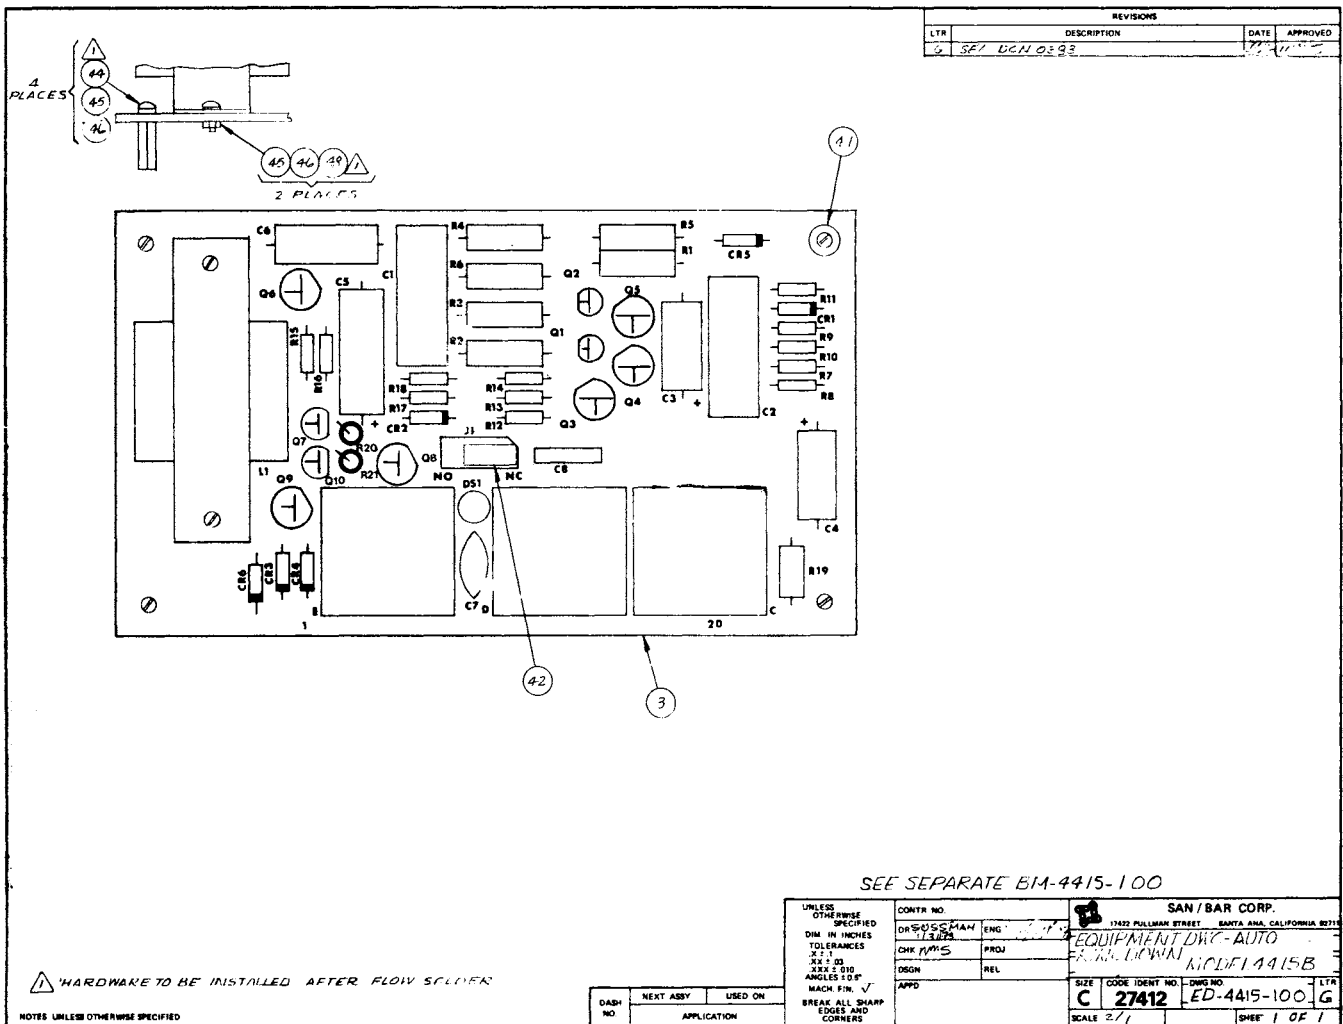

FIGURE 5
- b) Equipment Drawing: ED-4415-100(Fig.5)